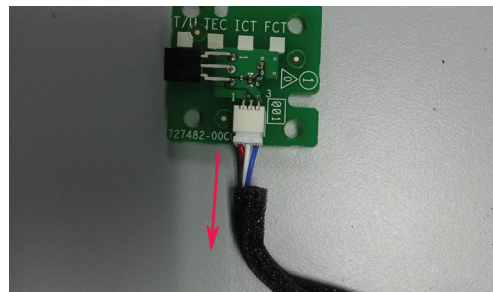

Figure 9. IR PCB, IR Cable Removal
2.3 Figure 9. Detach the IR cable from the IR board.